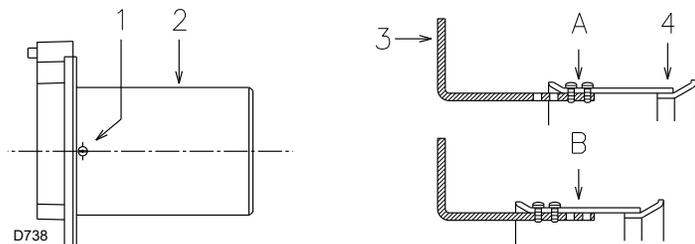

Fig. 9
- unscrew the screws 1)(Fig. 9) and disassemble the blast tube 2);